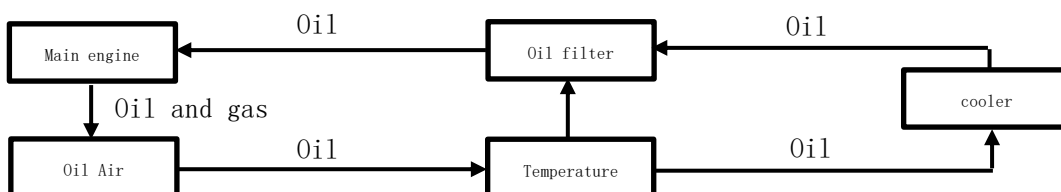

Figure 3-3 Lubricating Oil Circuit Flow
3.3.1 Lubricating oil flow process (Figure 3-3)